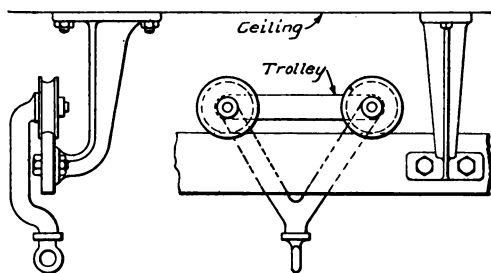

Fig. 7. Method of Constructing Track Attached to Ceiling of Shop
**Home-Made Ceiling Hoist.** Lacking one of these, a substitute can be made as indicated in the sketch, Fig. 7. The track is plain rectangular metal, known as  $\frac{1}{2}$  inch by 2 inches flat, while the brackets supporting it can readily be forged by any good blacksmith. The trolley consists of a forged and bent arm for one side and a straight bar for the other. The wheels can be found in any hardware store. The bottom end should be drilled and tapped, and the ring made in the lathe to fit into it. For this purpose, the threads should be large and numerous. The ring could be forged integrally, but that